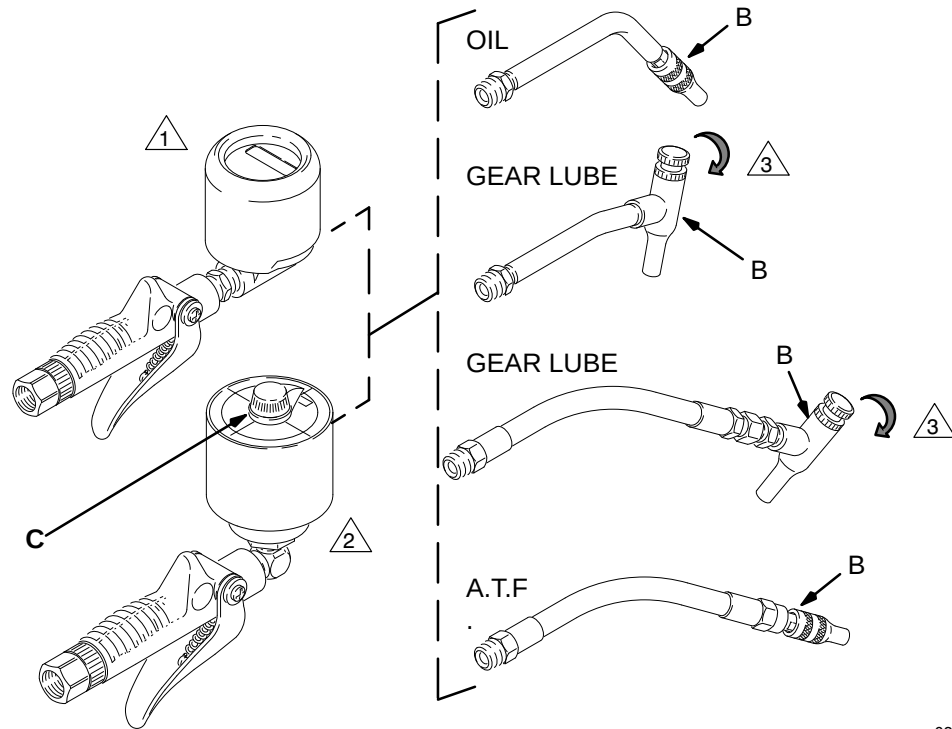

Fig. 5
Turn the reset knob (C) **counterclockwise** back to the zero stop. See Fig. 5. If the knob cannot be turned easily, do not force it. Clean and inspect the meter as explained on page 8.